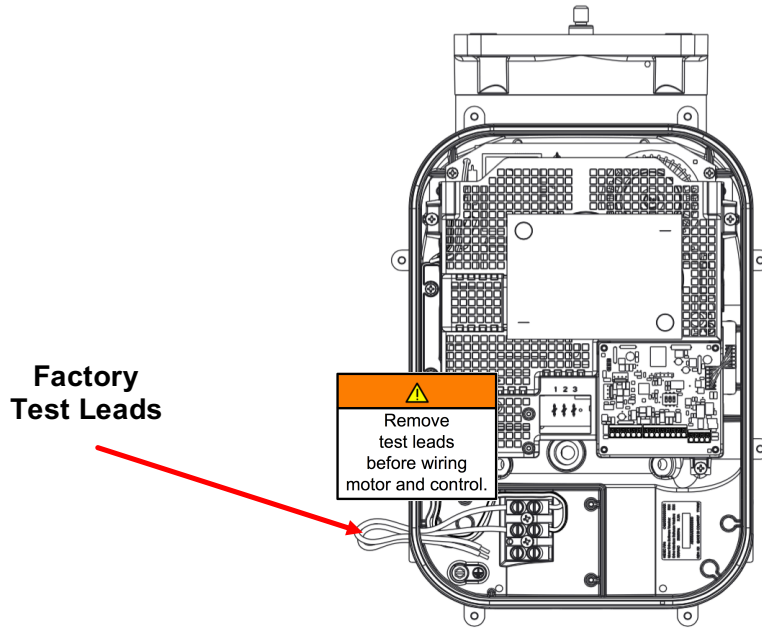

Figure 2
3. Disconnect and remove the Factory Test Leads. (Refer to **Figure 2**.) **Note:** When wiring the motor, if another conduit hole is required for the installation, swap the conduit plug you removed and secure the plug into the conduit hole you will not be using.